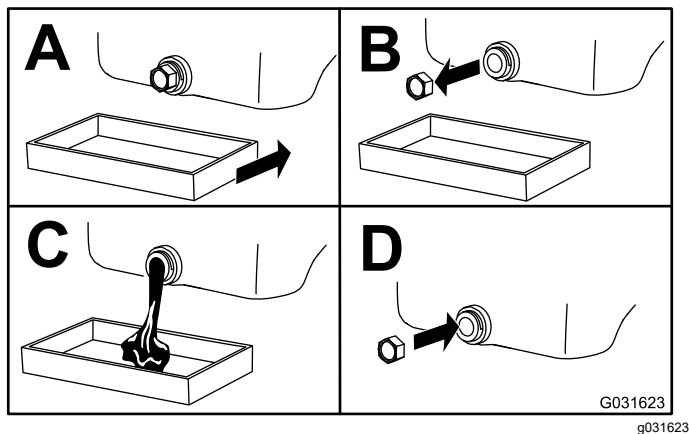

Figure 33
3. Change the oil (Figure 33).